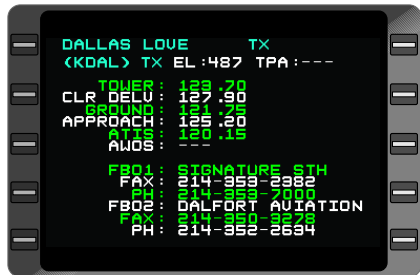

Figure 7-158
3. Press the **NXT** key to go to the next page of airport information, or press the **PRV** key to return to the previous page. See Figure 7-158 and 7-159.